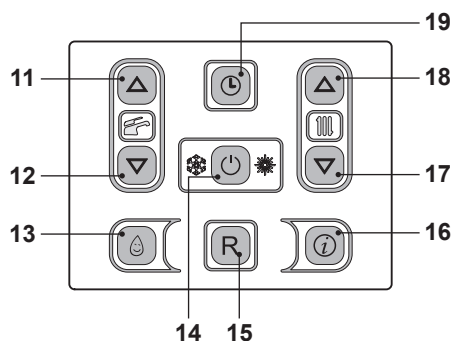
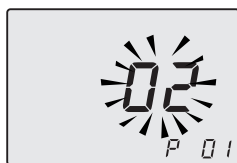
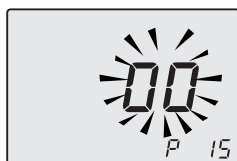

Fig. 7.17
Fig. 7.18
Fig. 7.19
- Enter in "programming mode" by pressing keys 14 - 17 - 18 (Fig. 7.17) for 10 seconds at the same time until the letters **P01** are displayed on the LCD display, indicating that "parameter 01, has been activated (Fig. 7.18).
- Scroll the various parameters using keys 17 or 18 until the letters **P15** are displayed on the LCD display, indicating that "parameter 15" (Fig. 7.19) has been activated.
- By pressing key 14 (Fig. 7.17) confirmation of the inserted value is obtained.
- Press keys 17 or 18 (Fig. 7.17) to exit without changing the value Fig. 7.19)
However, if the ambient temperature is not comfortable, the flow temperature of the heating plant can be increased or reduced by $\pm 15^{\circ}\text{C}$ by acting on keys 17 (reduce) and 18 (increase) (Fig. 7.17).